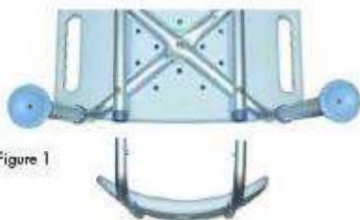

Figure 1
3. Insert first leg into the leg receptacle by depressing push pin. When the leg is in place, the brass push pin will extend out and lock the leg in place (Figure 1).